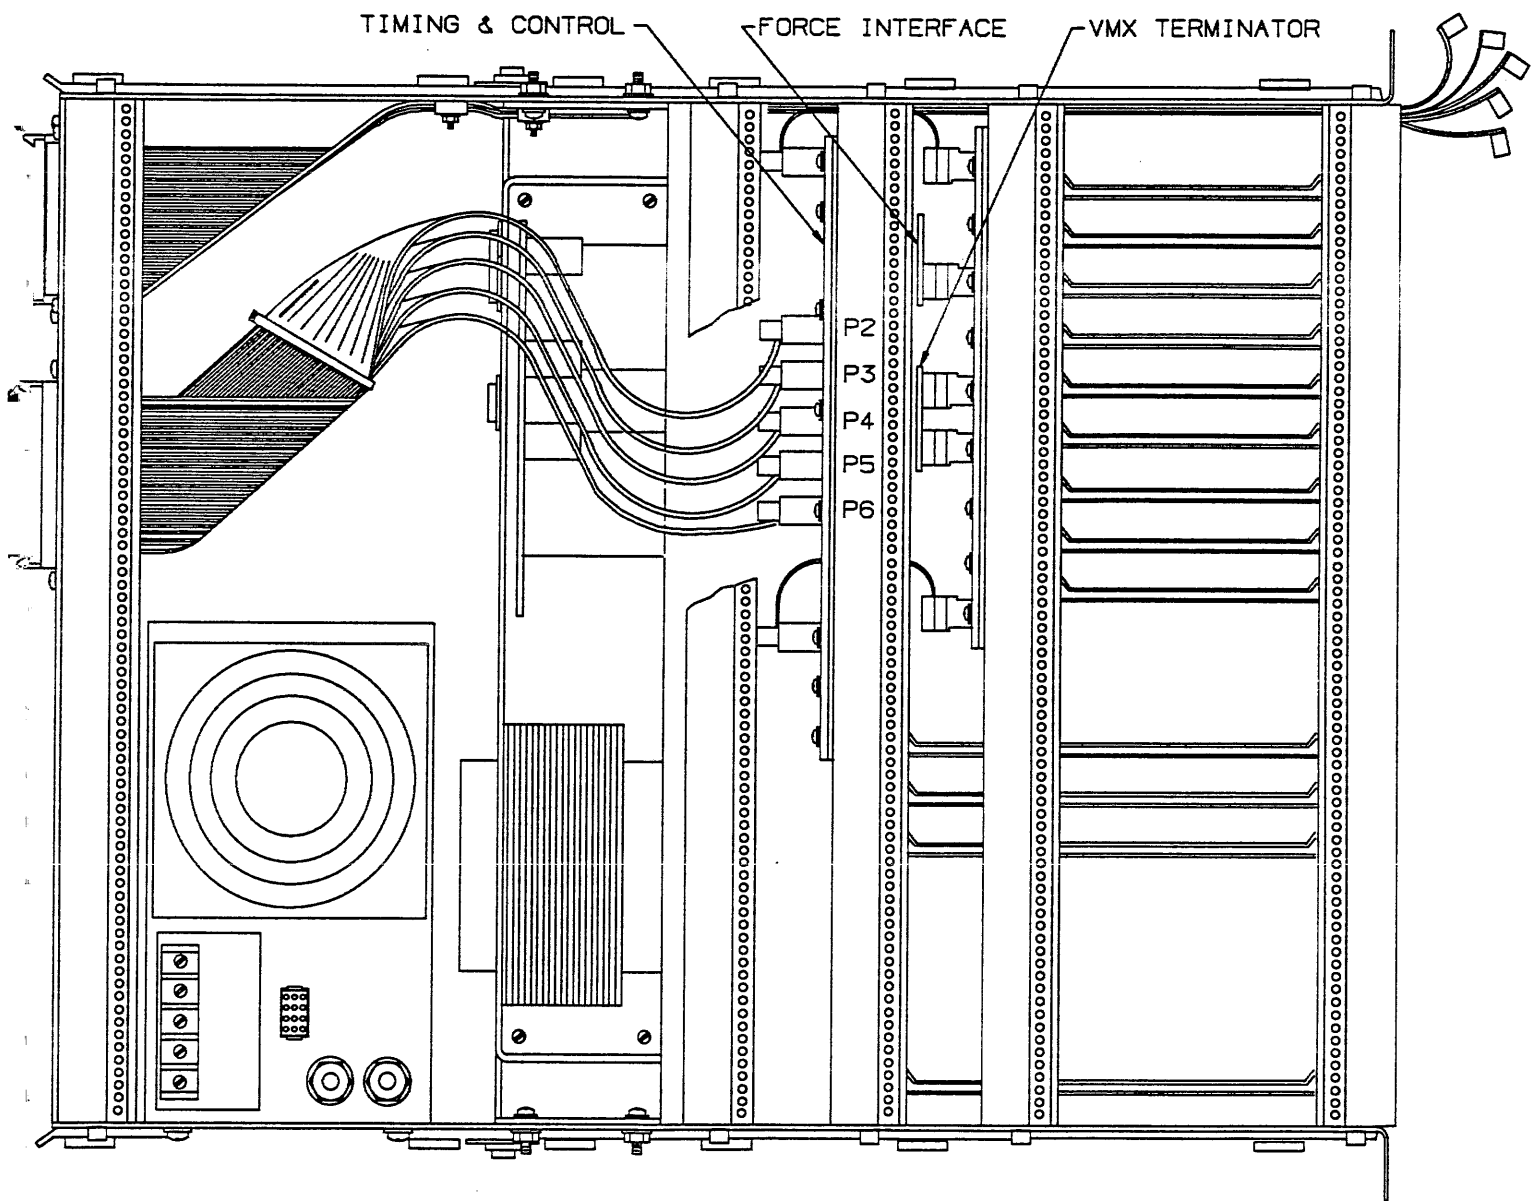

Figure 6.4.1 6U Top View
These instructions explain how to remove and replace the 120T and 120TX/T 6U boards from the front of the 6U chassis. Refer to Figure 6.4.1 for a detailed front view of the 6U.
This section tells how to remove and replace the Force Interface board in the 120TX/T 6U. This board is mounted in the rear of the VME backplane with a 96-pin connector directly behind the Force CPU. (See Figure 6.4.1.) Refer to Section 6.2 on removing and replacing cables.
This section explains how to remove the VMX Terminator in the 120T and 120TX/T 6U. The VMX Terminator board is mounted in the rear of the VME and VMX backplane. It has two 96-pin connectors in the 5th and 6th slots. (See Figure 6.4.1.) Please refer to Section 6.2 on removing and replacing cables.
Refer to Figure 6.4.1.
To remove the T&C board, refer to Figures 6.4.1 and 6.4.6.1.
- 9) Remove all the screws mounting the T&C to the middle crossmember. Refer to Figures 6.4.1 and 6.4.6.1. Leave the T&C VMX and its mounting screws installed.